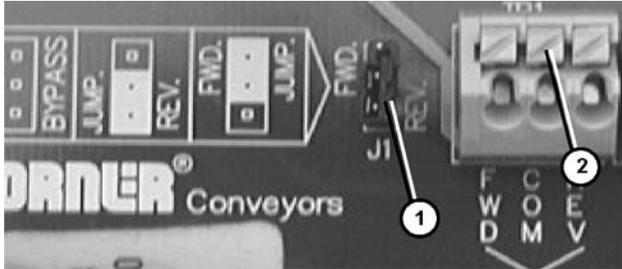

Figure 27
1. Remove the direction jumper J1 (Figure 27, item 1) from the pins. This jumper is not required.
2. Connect remote machine interface wires to the terminals labeled “External Contacts” (Figure 27, item 2).